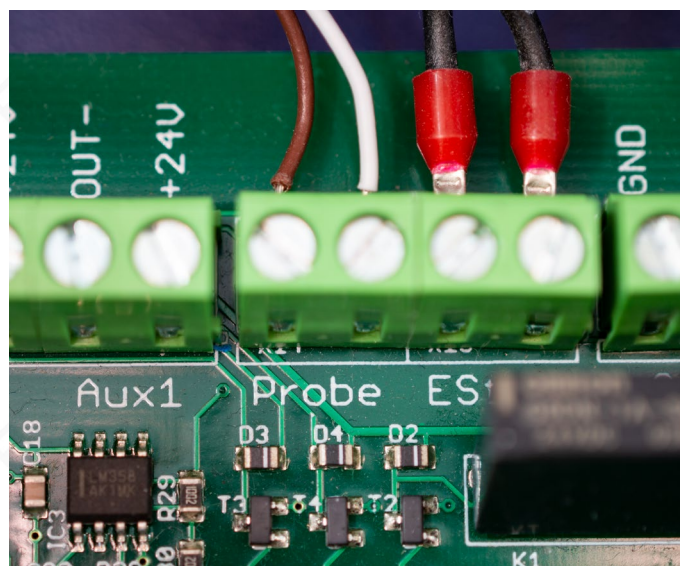

Fig. 16: Connection of the tool length sensor, here with brown and white wire. To the right the emergency stop.
- Connect the tool length sensor cable as shown in Fig. 16 on the next page.
Fig. 16 shows the connection on the mainboard.